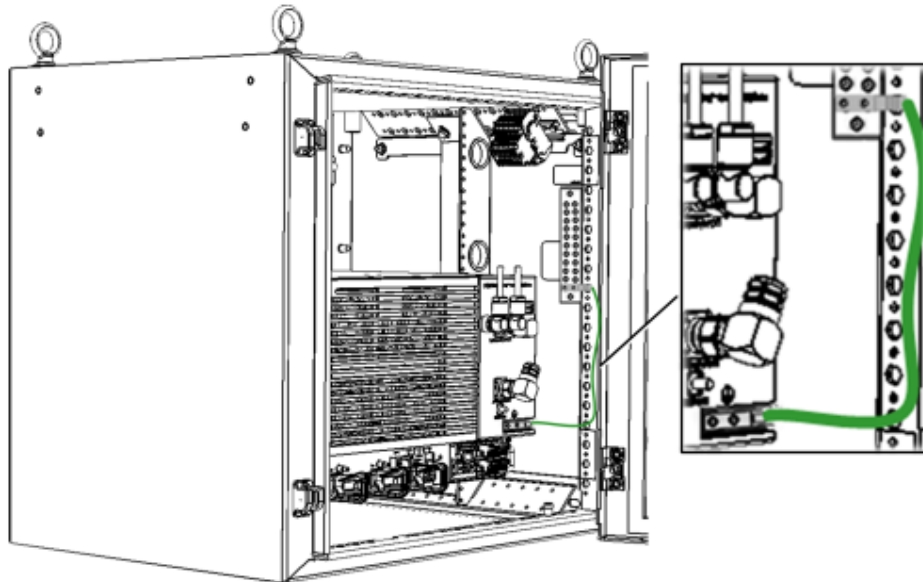

Figure 4-10. Grounding MRU to Cabinet
- Using one of the grounding cables provided with the cabinet, ground the MRU chassis via the two-hole, standard barrel grounding lug located on the front panel to one of the cabinet grounding bolts. Refer to Figure 4-10.